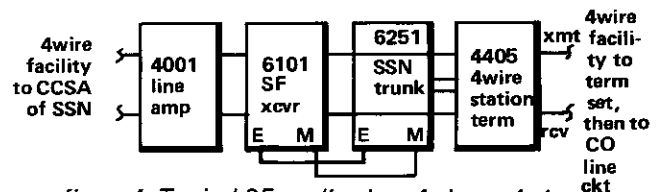

figure 4. Typical SF application, 4wire to 4wire
2.08 When the 6251 is not located in a CO and interfaces a 4wire loop on the CO side, a 440X Pad/Transformer module is used to provide transmission lead continuity to the circuit and signaling interface for the 6251. At the CO, a term set then converts the 4wire facility to 2wire. Figure 4 shows this application.